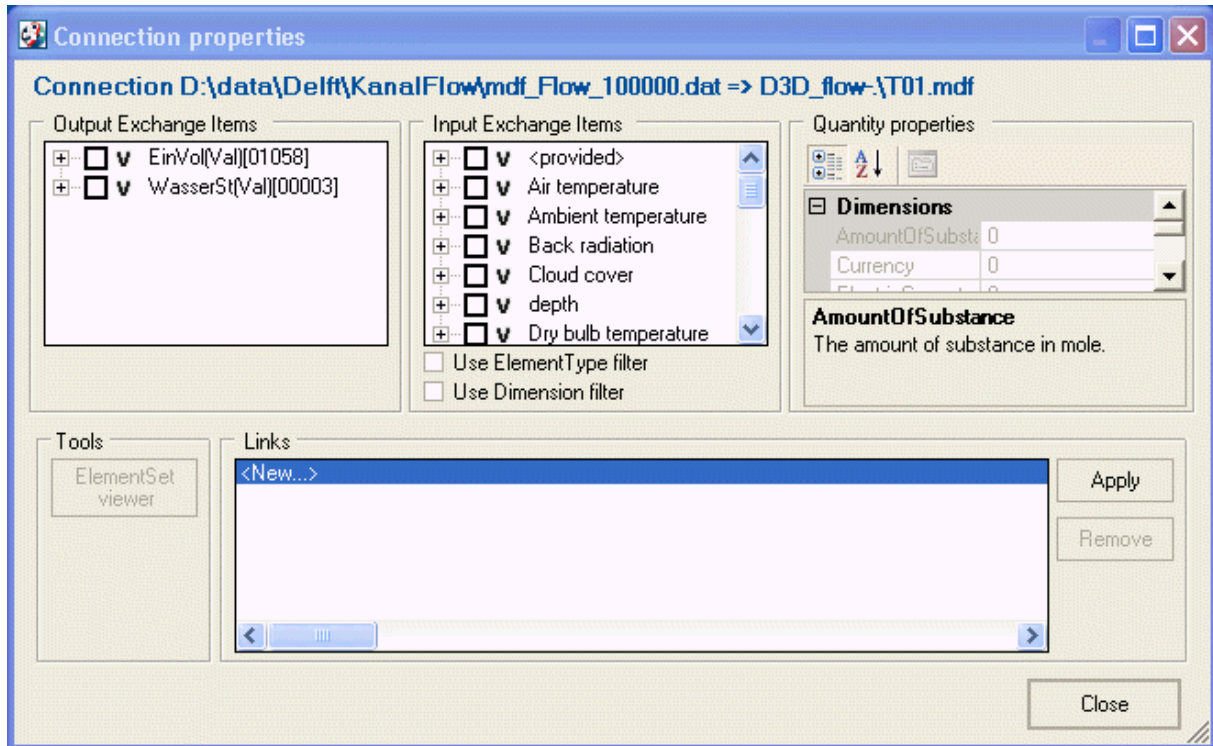

Fig. 13: Connection properties directly after the window has popped up
1. Doubleclick on the arrow in the middle of the connection. The properties dialog is displayed (Fig. 13).